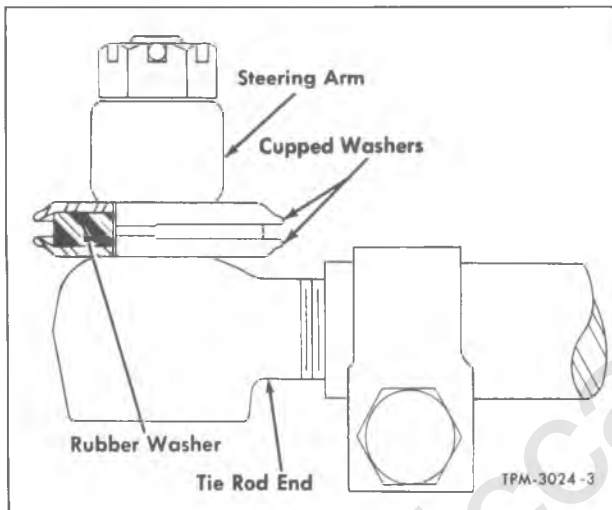

Figure 13—Tie Rod Anti-Rotation Bushing (Typical)
On some vehicles covered by this manual equipped with power steering, anti-rotation bushings are installed over tie rod end studs between tie rod ends and steering arms (fig. 13). Each bushing consists of two cupped washers and a rubber washer. Purpose of the anti-rotation bushings is to prevent weight of the power cylinder which is clamped to the tie rod, from rotating the tie rod
3. With parts properly aligned (fig. 13), tighten socket end clamp bolts to torque listed in "Specifications" at end of this section.